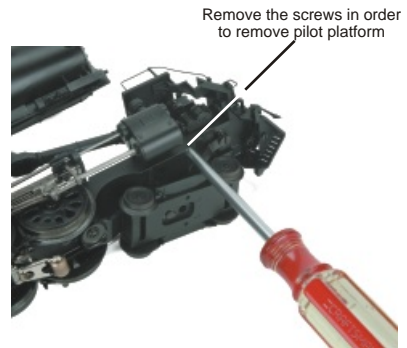

Figure 12
- 1) Remove the screw in order to remove platform on pilot (Fig. 12).